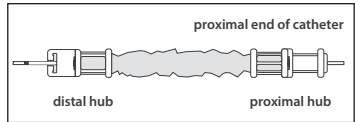

Figure 4
- ◊ Insert tip of desired catheter through proximal end of catheter contamination shield. Advance catheter through tubing and hub at other end (refer to Figure 4).